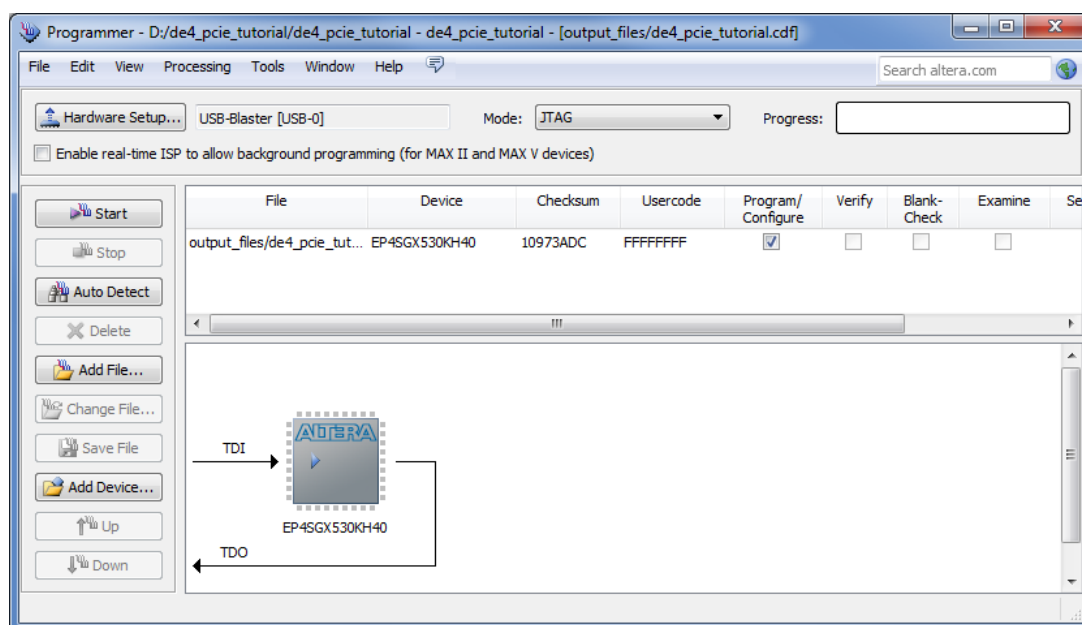

Figure 20. The Programmer window.
1. Select **Tools > Programmer** to reach the window in Figure 20.
4. At this point the window settings should appear as indicated in Figure 20. Press **Start** to configure the FPGA.